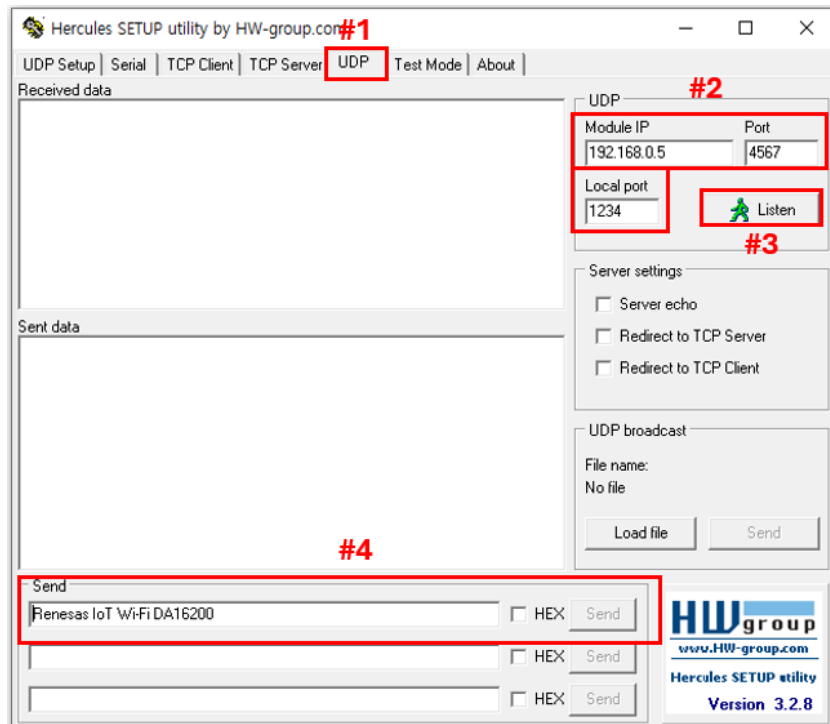

Figure 29: Hercules – UDP socket setting
- a. Select UDP (#1, Figure 29).
- b. Enter the IP address and port of the counterpart's UDP socket (#2, Figure 29).
- c. Enter the port number to be used and click Listen to open the socket (#3, Figure 29).
- d. Enter data and click Send to transmit (#4, Figure 29).